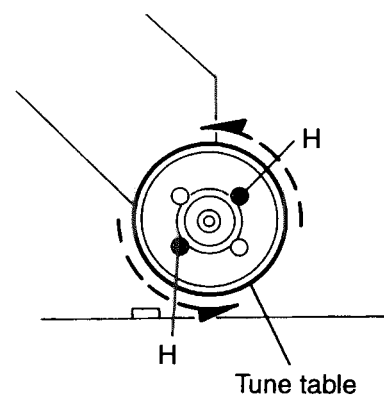

Fig. 24
2. While turning the turntable, remove the two screws ⑧ retaining the spindle motor and take out the spindle motor (See Fig. 24).